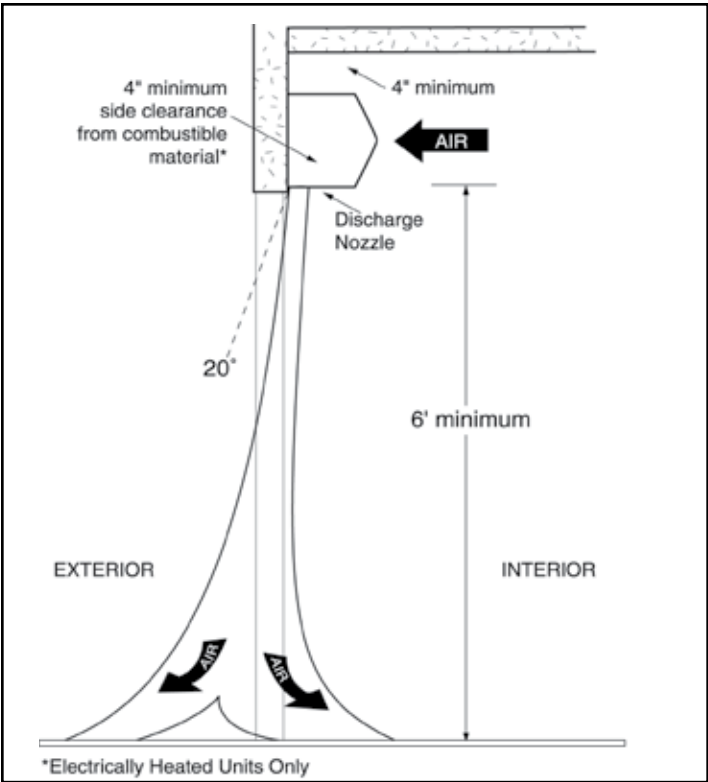

FIGURE 1 - Air Stream
- A. When determining the mounting location for the unit(s), make sure that nothing interferes with the curtain of air developed when the discharge vanes are directed from 0° to 20° toward the door opening. If the air stream strikes any obstruction (the top edge of the doorway, a door opening device, etc.), the effectiveness of the unit will be greatly reduced. See Figure 1.